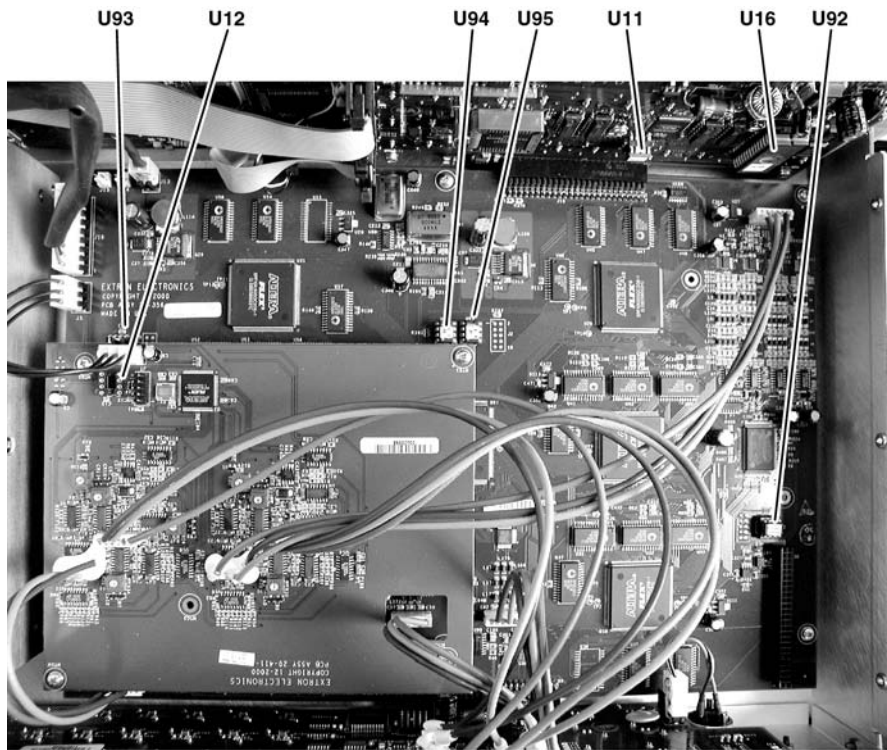

Figure B-4 — Locating and replacing ICs
2. Locate the ICs to be replaced (figure B-4). The update kit will list the specific ICs.